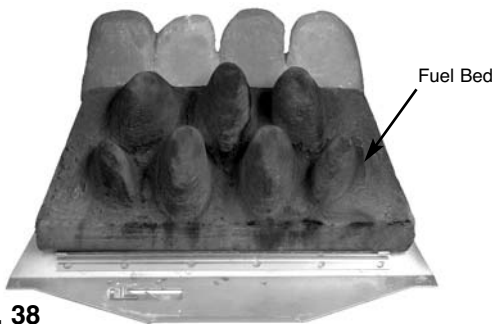

Fig. 38
2. Place the main fuel bed on to the middle section of the metal burner tray. It is important that the front edge of the fuel bed is located behind the burner strip (Fig. 38).